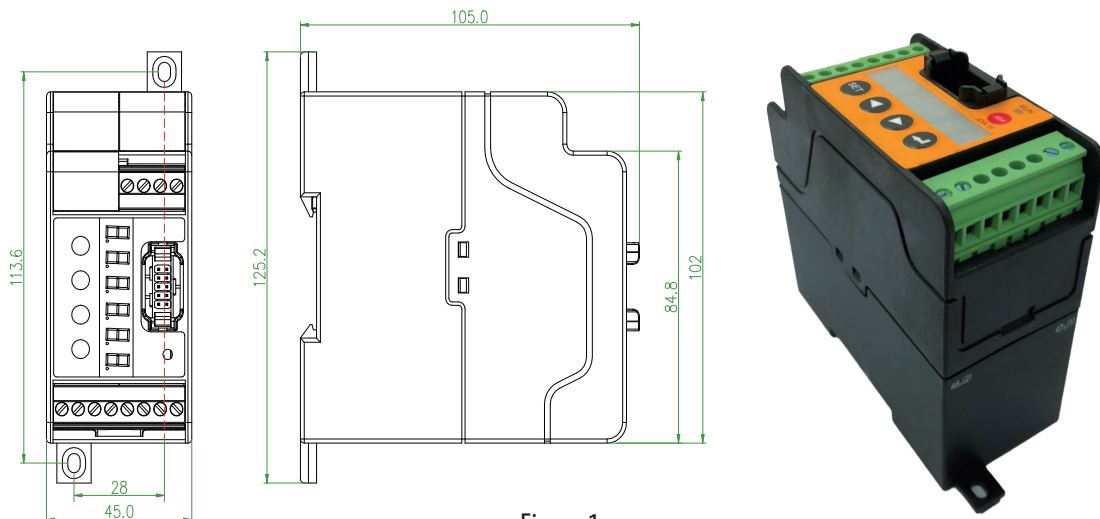

Figure 1
6.1.1 Power supply module size (Figure 1)